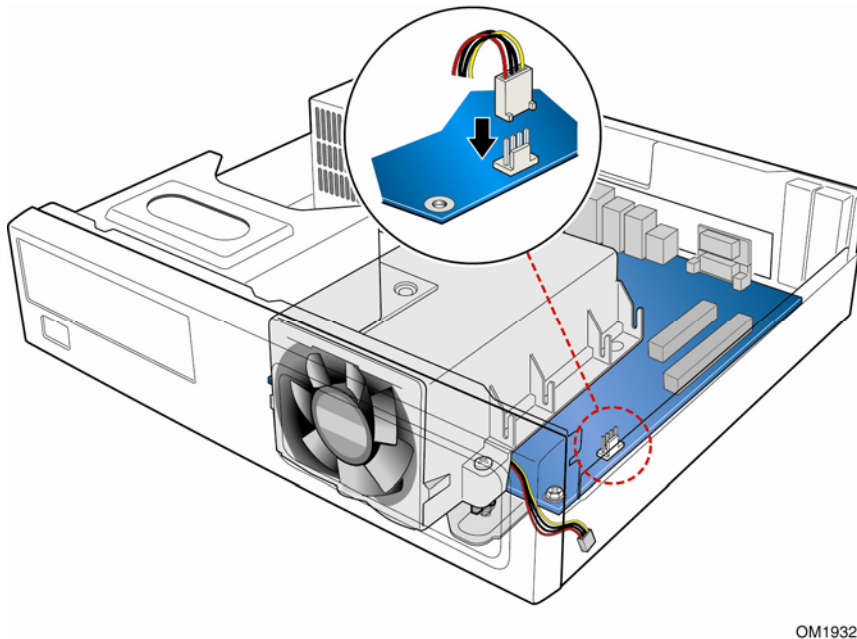

Figure 15. Connect the Thermal Module Fan Cable
5. Connect the Thermal Module Fan cable to the 4-pin processor fan header on the desktop board (see Figure 15).